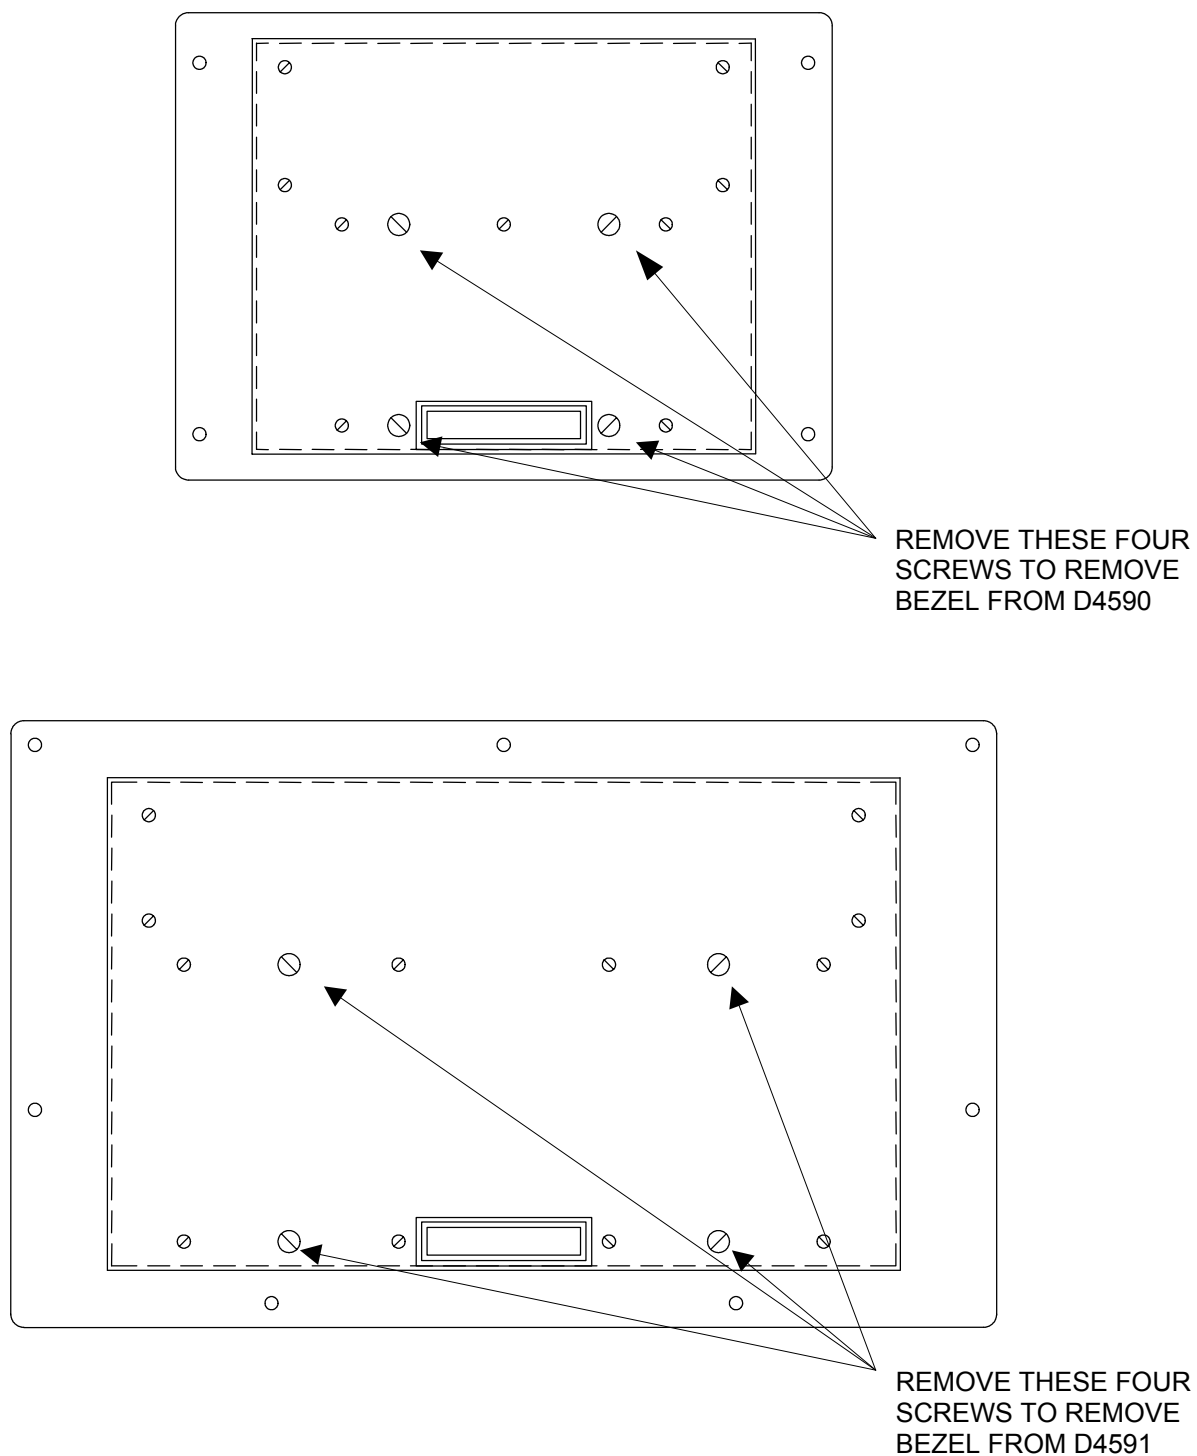

Figure 8.1 - D4590/D4591 Keypad/Display Bezel Removal
- 2) Remove the four 6-32 screws shown in figure 8.1 from the back of the D4590/91. These four screws hold the display bezel to the display body. Do not remove any of the other screws.